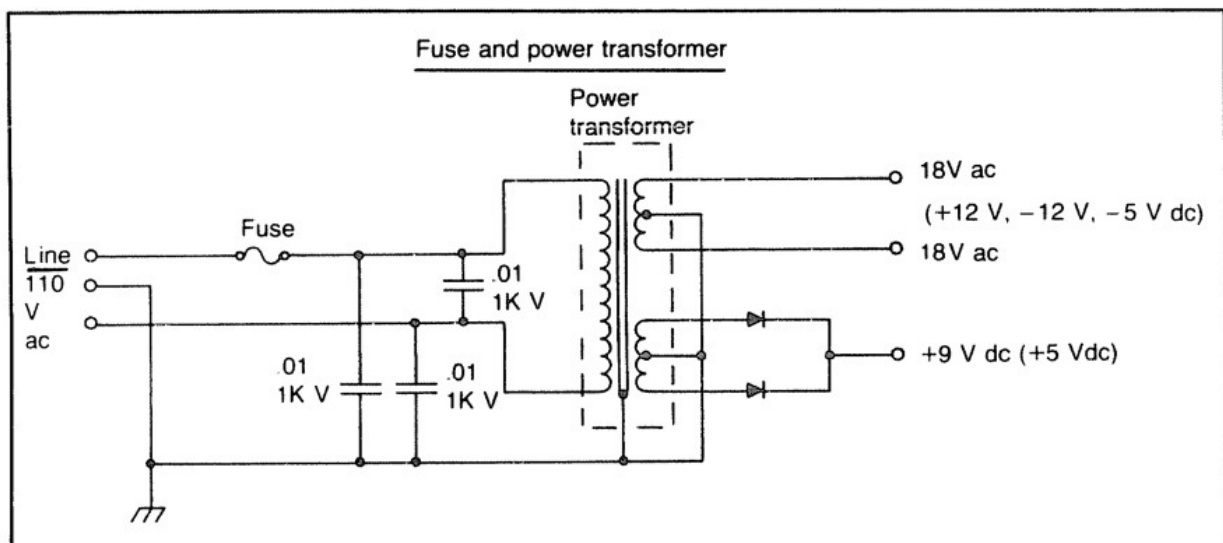

Fig. 20-2. The fuse and power transformer configuration can be found on a separate board away from the rest of the computer.
**The Fuse and Power Transformer.** The input to the computer from the 110 volt house line enters a polarized plug. The two active lines send the 110 to a power transformer that is fused in the high input line (Fig. 20-2). The ground connection is attached to the computer chassis ground. There are